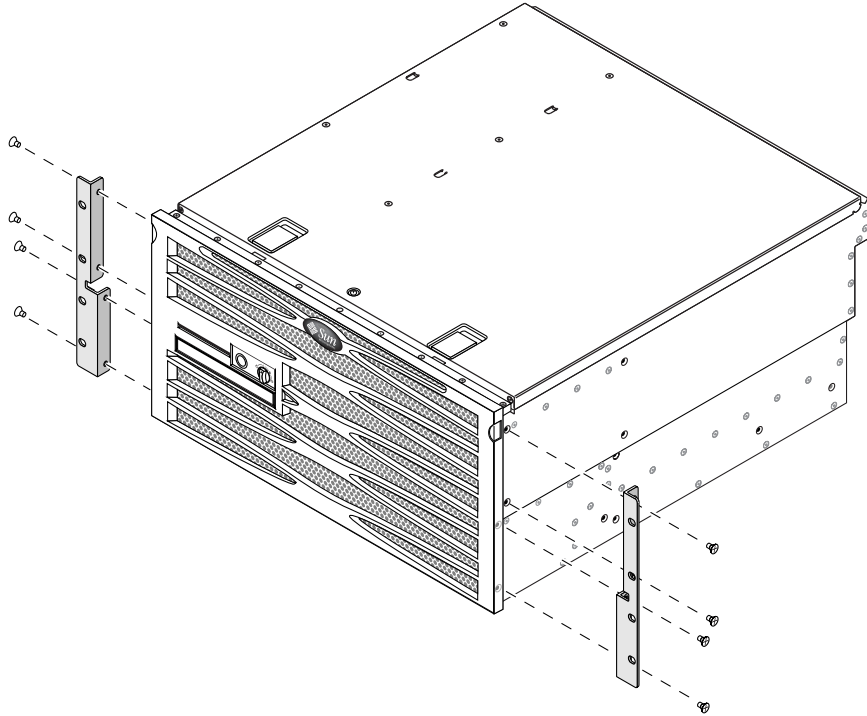

FIGURE 3-18 Securing the Hardmount Brackets to the Server
2. Using eight of the supplied M5 × 8 mm flathead Phillips screws (four screws for each bracket), secure the front hardmount brackets to the sides of the server (FIGURE 3-18).